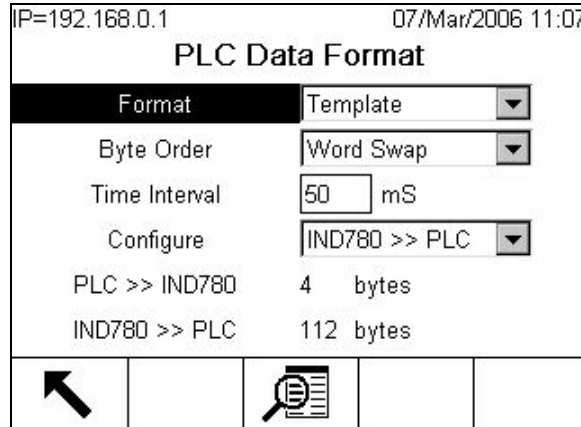

Figure 1-8: PLC Data Format Screen
1. From Setup, select Communication > PLC Interface > Data Format. Figure 1-8 shows the screen with Template selected as the format, revealing the Time Interval, Configure, and directional displays. When Application format is selected, only the Format box appears on this screen.
- D. The bottom of this screen (Figure 1-8) displays the number of bytes that will be sent by the IND780 and the number of bytes expected from the PLC.